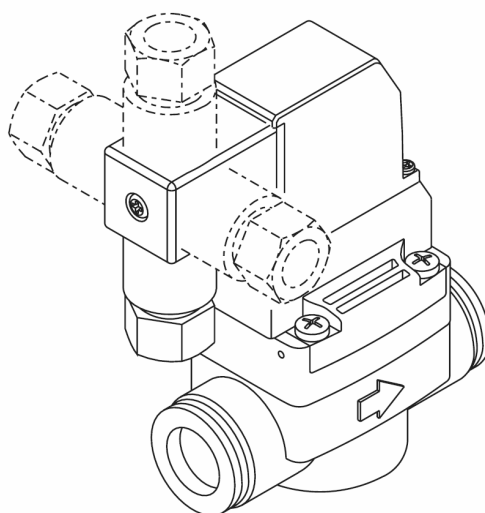

Figure 3 Attaching direction of the DIN terminal box
- Applicable outer diameter dimension for cable ⑦ is VCTF (two or three cores) ($\phi 3.5$ to 7) defined in JIS C3306.
- If you use crimping sleeve ⑩ at the tip of the stranded wire, use H0.5/6 ($0.3 \sim 0.5 \text{ mm}^2$) or H0.75/6 (0.75 mm^2) made by Weidmueller Japan Co.,Ltd. or equivalent. Please provide the crimping sleeve.
- Pass Cable Gland ④, Washer ⑤, and Rubber Packing ⑥ through Cable ⑦. Insert the Cable into Cover ②.
Set the wire-connected Gland ③ into Cover ② (insert the gland until you hear a snap sound). You can set the gland in four directions (refer to figure 3).